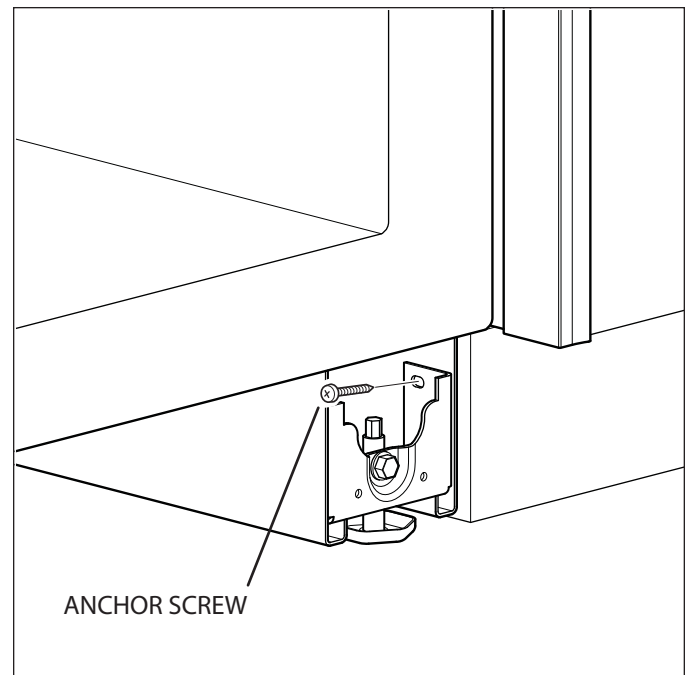

Figure 2-23. Anchoring at Bottom of Unit
2. At the unit roller base assemblies, locate the anchoring holes, one in each assembly. Install anchor screws, keeping in mind that they will need to be driven in at an angle (See Figure 2-23).